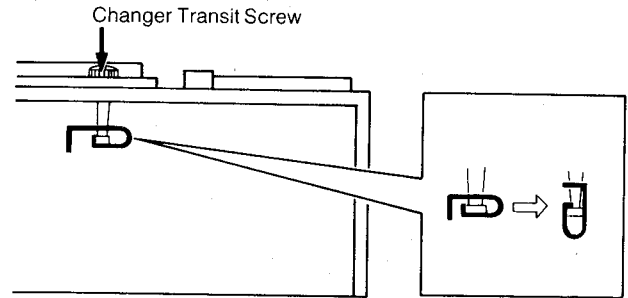

FIG. 1
(Refer to Figs. 1, 2-a ~ 2-e and 4)
3. Turn retaining clip of changer transit screws, as shown in Fig. 1.